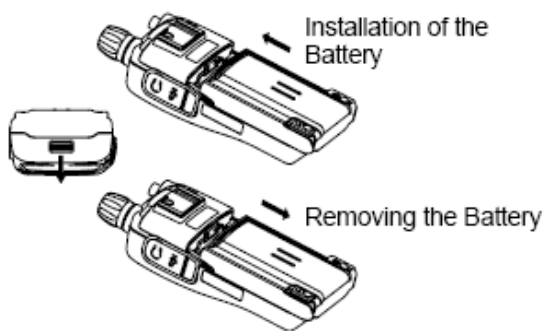

Figure 4-2) Installation and Removing the Battery
- Slide the battery latch located on the bottom of radio to the open position as shown in Figure 4-2.